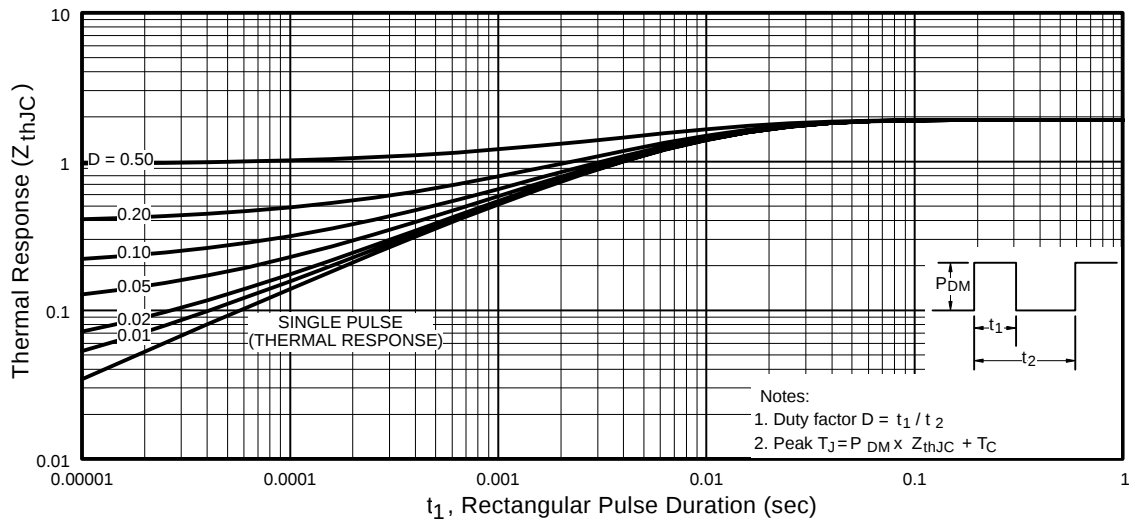

Fig 11. Maximum Effective Transient Thermal Impedance, Junction-to-Case
- ① Repetitive rating; pulse width limited by max. junction temperature. (See fig. 11)
② $V_{DD} = 25V$, starting $T_J = 25^\circ\text{C}$, $L = 3.1mH$